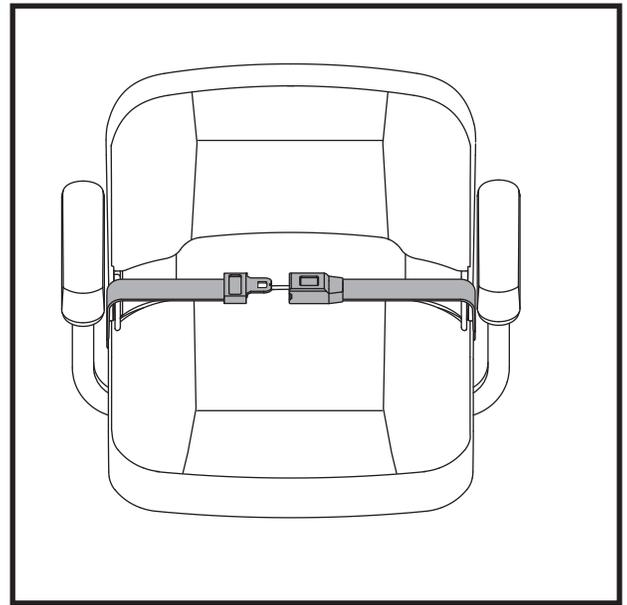

Figure 26. Positioning Belt - Metal Tab Style
1. Insert the metal tab on the right side of the belt into the plastic housing on the opposite strap until you hear a “click.” **See figure 26.**